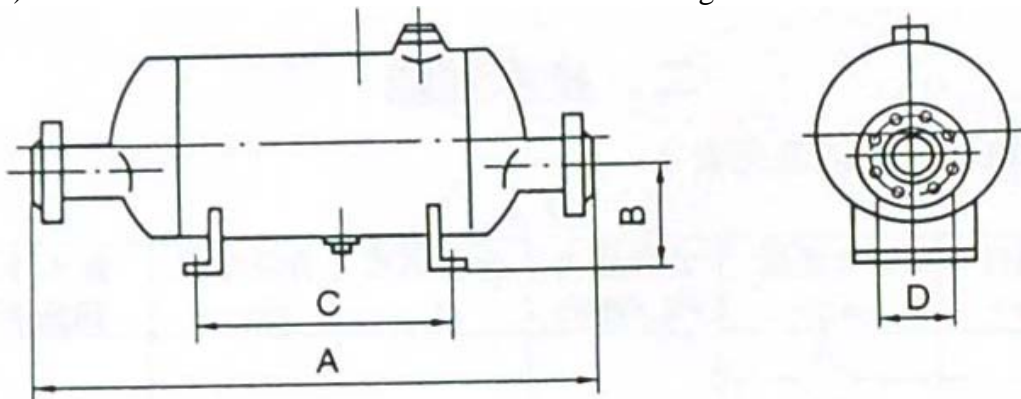

Fig.2
(1) Dimensions of Horizontal Air Eliminator refer to Fig 2 and Table 2